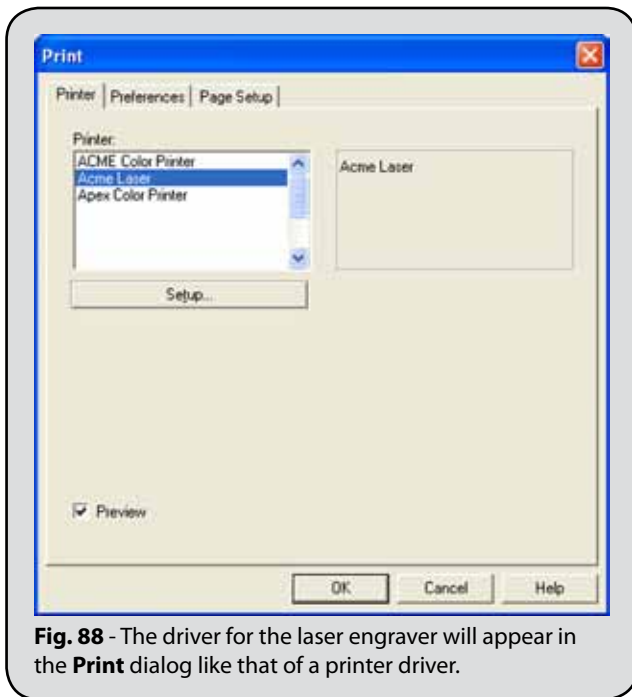

Fig. 88 - The driver for the laser engraver will appear in the **Print** dialog like that of a printer driver.
1. Choose **File** menu >> **Print** to open the **Print** dialog (Fig. 88).